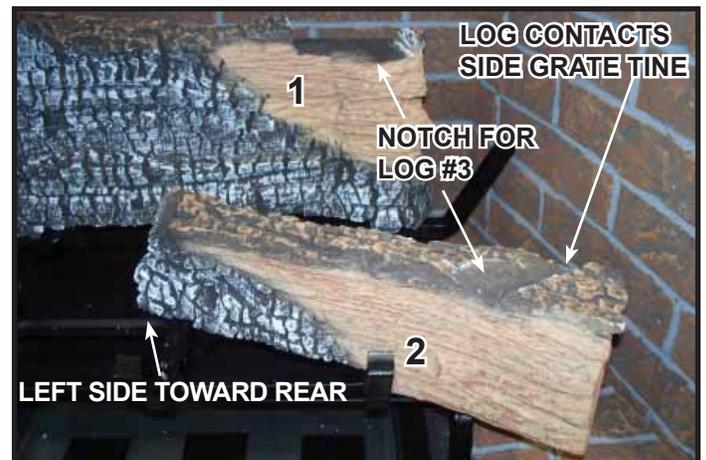
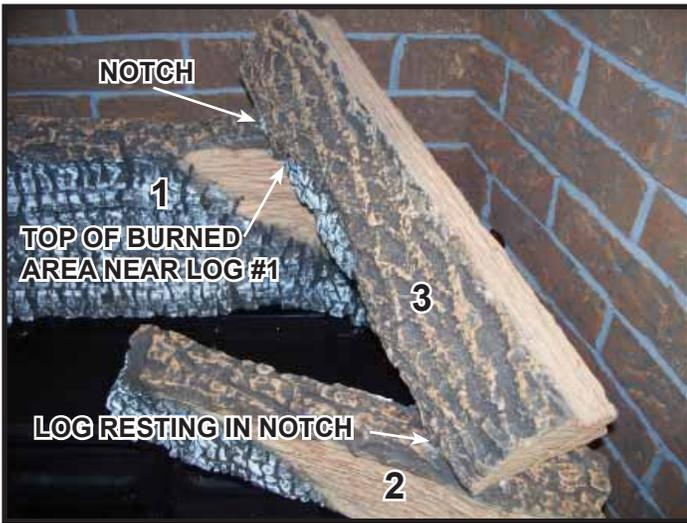

Figure 5.
Figure 6.
**Log #2 (2280-702 for TRUE-36, 2281-702 for TRUE-42):** Locate log placement notch on the bottom of Log #2. See Figure 4. Mate notch on the bottom of Log #2 with the center and right grate tines. Slide log toward rear of appliance until right end contacts the side grate tine. See Figure 5.
**Log #2 (TRUE-36):** Log #2 will be about 1 inch from the back of the center grate tine when properly placed. See Figure 5.
**Log #2 (TRUE-42):** Log #2 will contact center log placement tab on center grate tine. See Figure 5.
**Log #3 (2281-703):** Locate log placement notches for Log #3. See Figure 5. Place Log #3 onto notches so that the bottom of the log rests in the notch on log #2 and the top rests in the left hand side of the notch on Log #1. The top of the burned area on Log #3 will be close to Log #1 when properly positioned. See Figure 6.